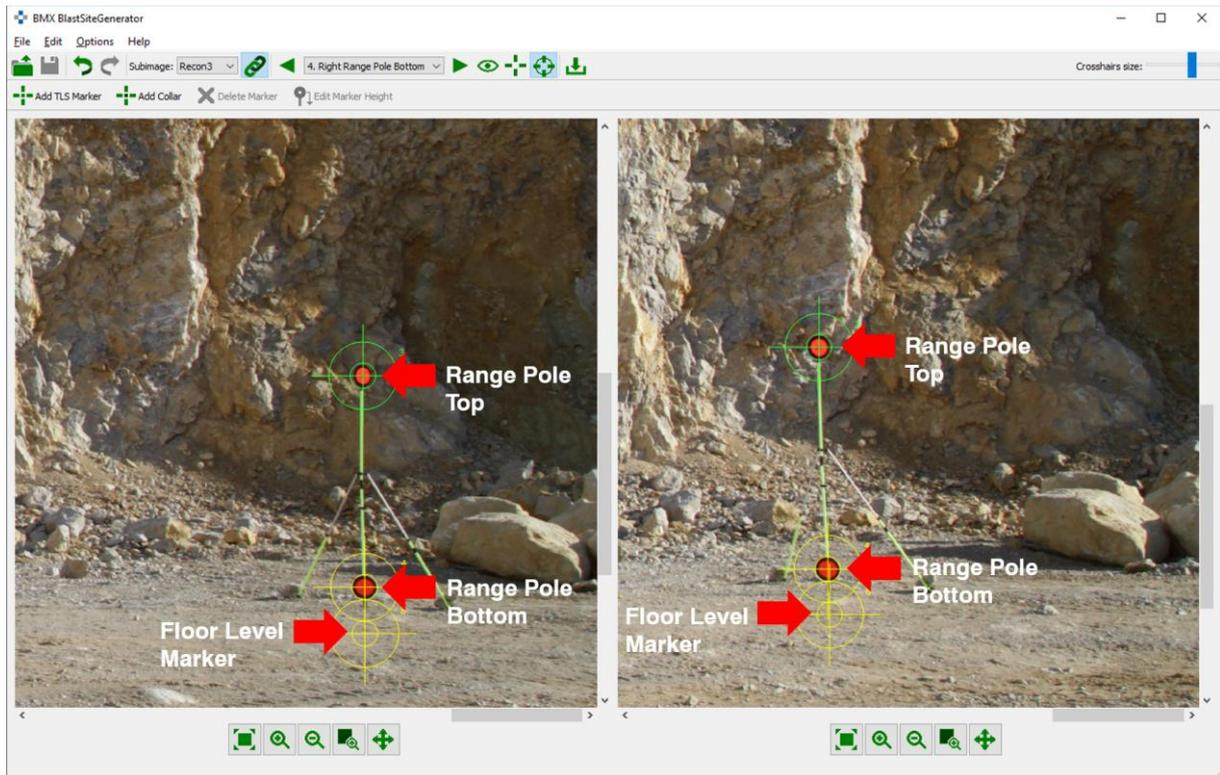

Figure 10: Corresponding points marked in the left and the right image
6. Center the target with the left mouse button in both pictures (Figure 10 and Chapter 7.2).